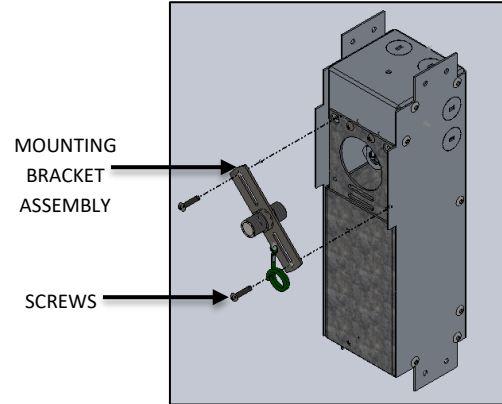

FIG. 7 - MOUNTING BRACKET DISASSEMBLY
2. Remove the Screws securing MOUNTING BRACKET ASSEMBLY, and slide MOUNTING BRACKET ASSEMBLY out of J-BOX as shown in FIG. 7.